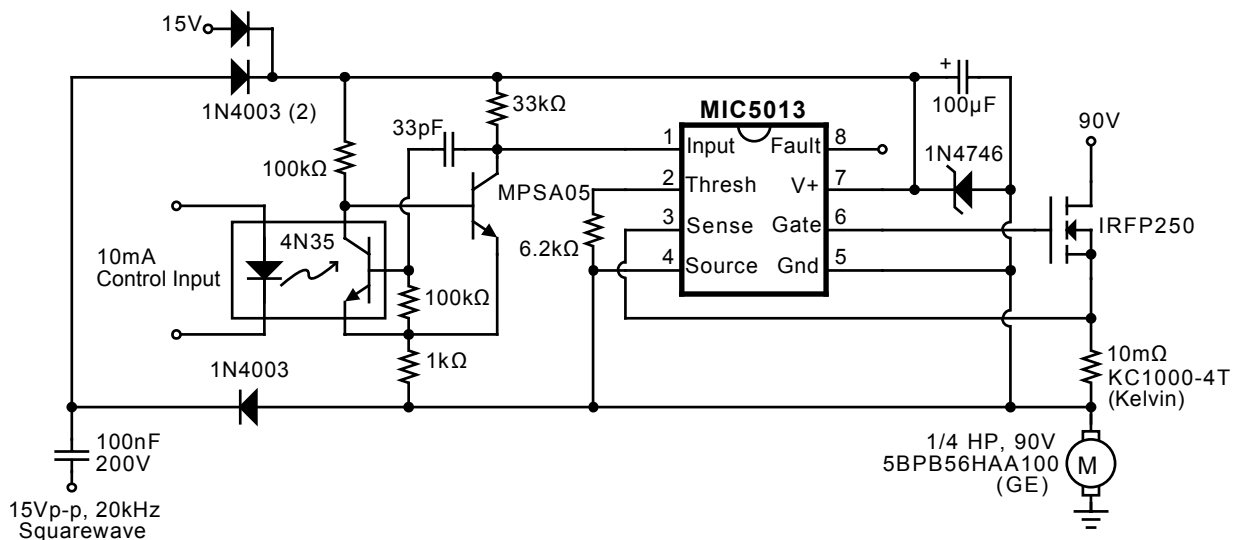

Figure 10. High-Voltage Bootstrapped Driver
**High-Voltage Bootstrap** (Figure 10). Although the MIC5013 is limited to operation on 7 to 32V supplies, a floating bootstrap arrangement can be used to build a high-side switch that operates on much higher voltages. The MIC5013 and MOSFET are configured as a low-side driver, but the load is connected in series with ground. The high speed normally associated with low-side drivers is retained in this circuit.